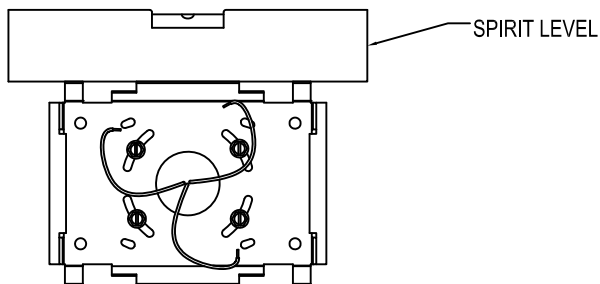

FIGURE. 4
5. LEVEL MOUNTING PLATE TO WALL USING A SPIRIT LEVEL. SEE FIGURE 4.